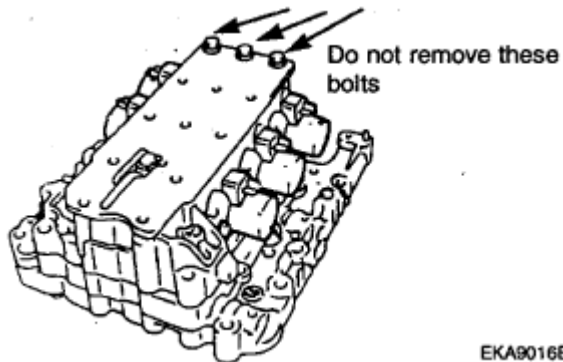

Fig. 21: Identifying Valve Body Mounting Bolts
15. Remove the valve body mounting bolts. Do not remove the bolts shown in **Fig. 21** at this time.